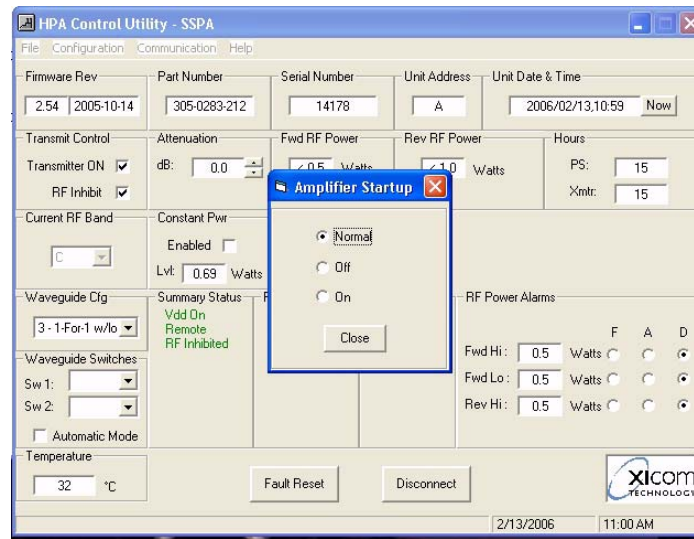

Figure 22, Amplifier Startup Configuration
- Refer to Figure 22. If the “Configuration -> Startup Configuration” option is selected, you are presented with a dialog allowing the selection of Normal / Off / On.